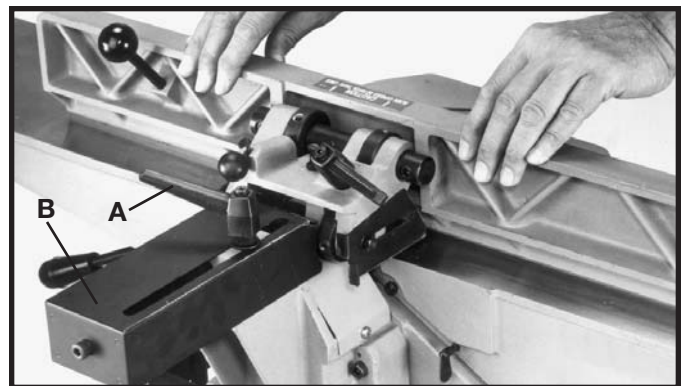

Fig. 48
1. To move the fence across the table, loosen lock handle (A) Fig. 48, slide fence to the desired position on the table and tighten lock handle (A). As the fence is moved across the table, the rear cutterhead guard (B) covers and guards the cutterhead in back of the fence.